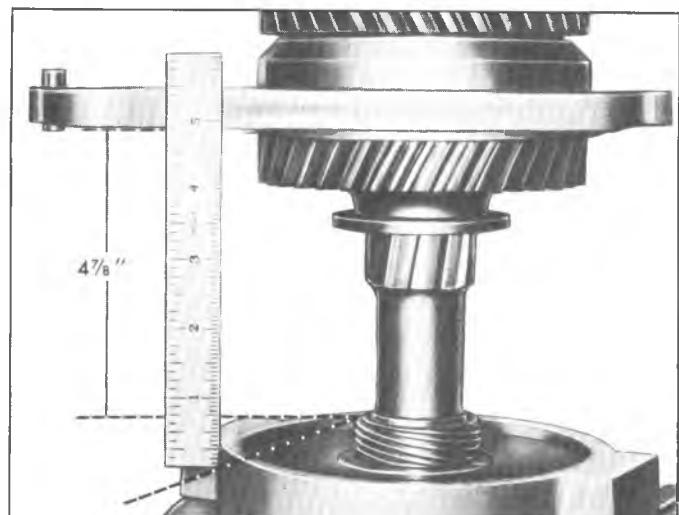

Fig. 14B-Installing Speedometer Gear
11. Install retaining clip and speedometer gear. On models using the metal gear, press speed. Drive gear onto mainshaft using a suitable press plate such as J-1453. Position the gear to obtain a measurement of $4\frac{7}{8}$ " from the forward side of the gear to the flat surface of the rear bearing retainer (Fig. 14B).